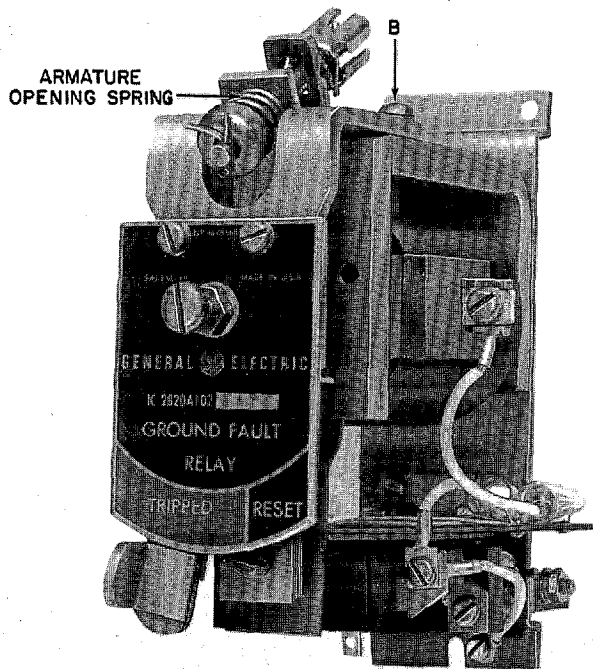
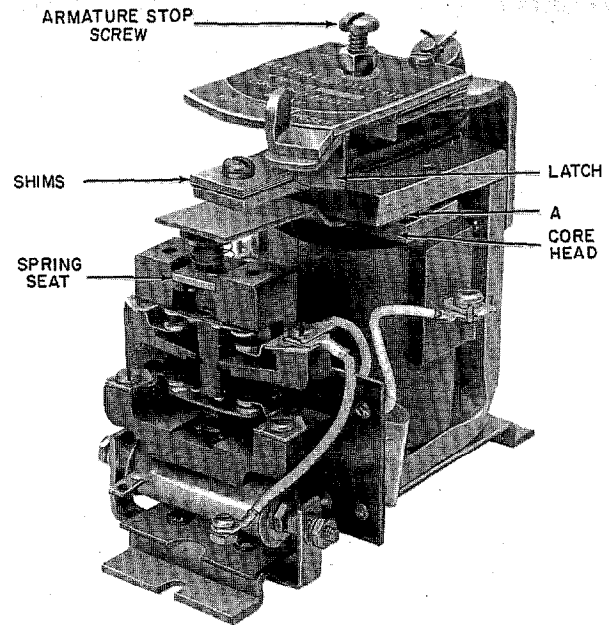

Fig. 3. Reset lever in TRIPPED position
Fig. 4. Reset lever in RESET position
Also actuated at this time are a second set of contacts that may be either normally open or normally closed. The trip lever holds the relay in the TRIPPED position until the lever is moved in a counterclockwise direction to the RESET position. Figure 3 shows the reset lever in the TRIPPED position and Fig. 4 shows it in the RESET position.
1. **ARMATURE GAP** - Adjust the armature stop screw, see Fig. 4, so that the armature gap, measured between the armature shim and edge of core head, Point A, Fig. 4, adjacent to the contact block, is 0.072 to 0.078.
2. **RELAY LATCH** - The lever should turn freely to the fully latched position when the relay is slowly closed manually and must not bind in any position of the lever arm. While holding the relay closed and armature assembly against the core head, there should be approximately 1/64 in. clearance between the shim and latch. The latch must be easily returned to the RESET position. See Fig. 4.
4. ARMATURE OPENING SPRING - The armature opening spring (see Fig. 3) is adjusted so that the relay will pick up cleanly with 10 amperes in the primary of current transformer JCH-0 (ratio 300:5) or 11 amperes in the primary of current transformer JCS-0 (ratio 100:5).
ing the two screws "B" as shown in Fig. 3. This eliminates the possibility of disturbing any adjustments. Then, remove the two flat-head screws that secure the core head to the core. After replacing the coil, replace the core head making certain that the flat-head screws are tightened so that the heads of the screws are below the surface of the core head. Replace the armature and latching mechanism. Perform the necessary checks as described under ADJUSTMENTS.
To replace contacts, lift the spring seat, (Fig. 4) with the thumb and forefinger and remove the entire movable contact assembly. Snap off the "U"-shaped keys and the movable contacts can be removed. Care should be taken that the operating spring and spring spacer, if removed, are not lost during this operation.